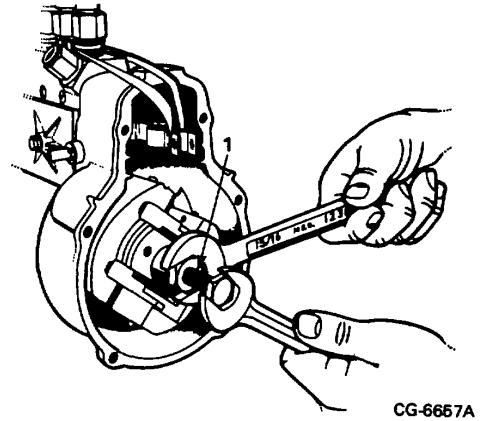

Figure 15. Removing Governor Flyweight Assembly
12. Install KDEP 2886 governor flyweight remover tool (Figure 15) and remove flyweight assembly. Since governor weight assembly is serviced as a complete unit, no further disassembly is required until rebuild.